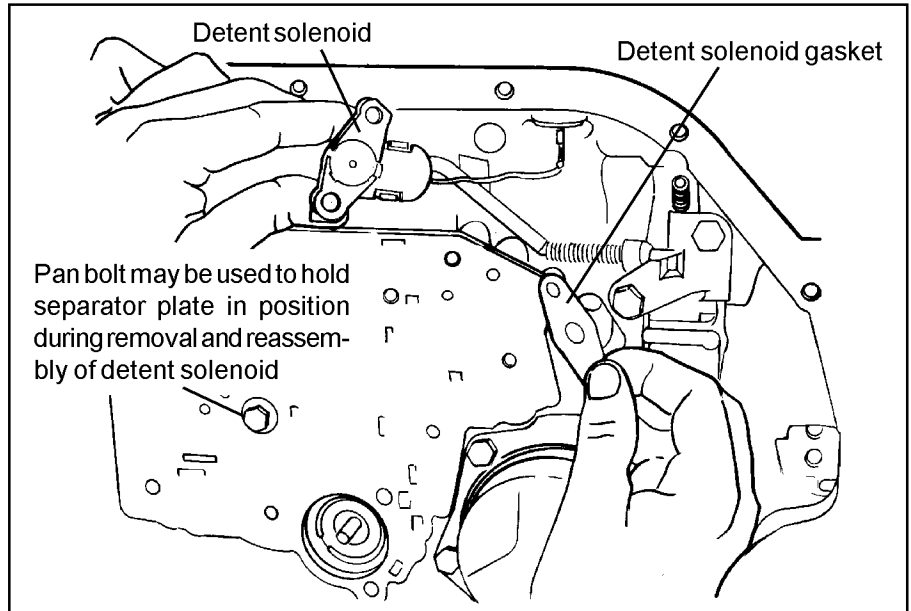

Figure 7
in place. **STEP 5.** Use one (1) pan bolt to hold the separator plate in place while removing the solenoid. Remove the two bolts holding the detent solenoid (See Fig. 7) and allow the solenoid to hang by its wire. Remove the pan bolt and carefully lower the separator plate. Be careful not to loose the six (6) 1/4" steel check balls that are on top of the separator plate. The check balls will be
**STEP 11.** Place upper valve body gasket (has "C" punched in it) on to the **B&M** separator plate (use grease or petroleum jelly to hold it in place). Install the plate and gasket against the case and use a clean pan bolt to hold it in position for now (**See Fig. 7**).